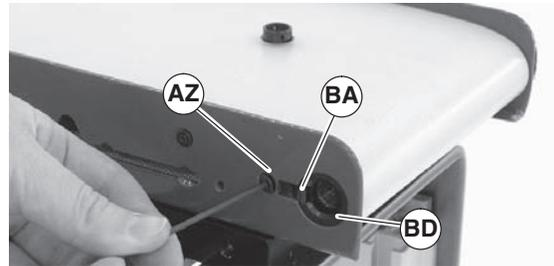

Figure 55
9. Insert retaining sleeve clip (Figure 55, item BA) into slot and tighten with screw (AZ).